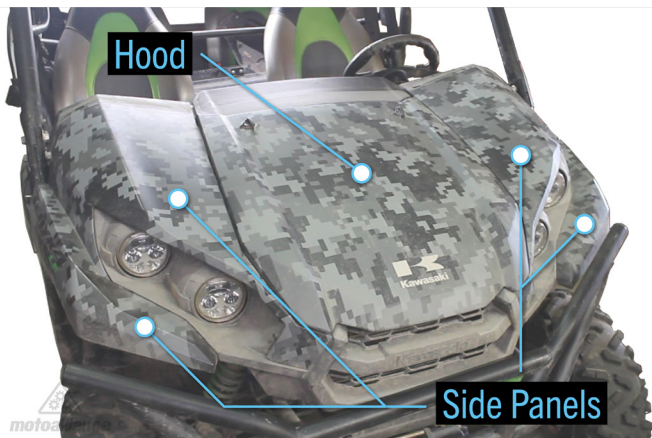

FIGURE 1
3. Remove the plastic rivets and screws holding the side panels in place, then remove the panels as shown in **FIGURE 1**.